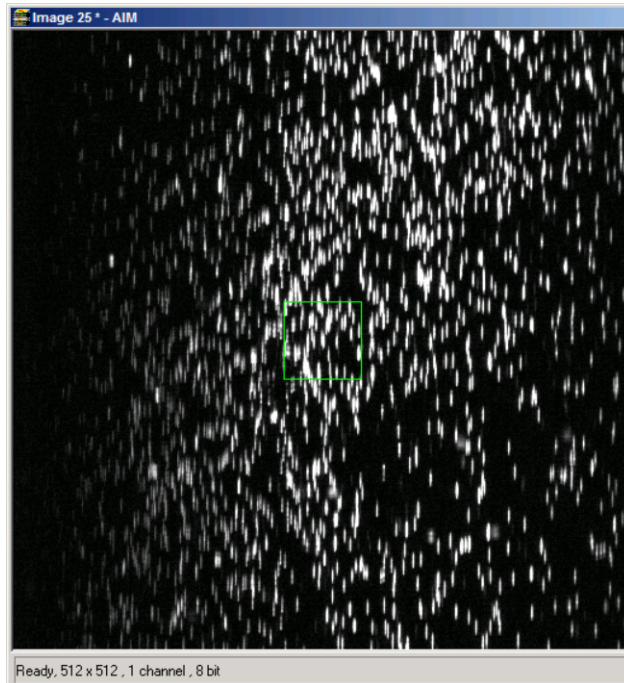

Fig. 11 Beads focused for maximal vertical thinness
- Focus with the microscope focus drive to get the vertical lines as thin as possible (Fig. 11).